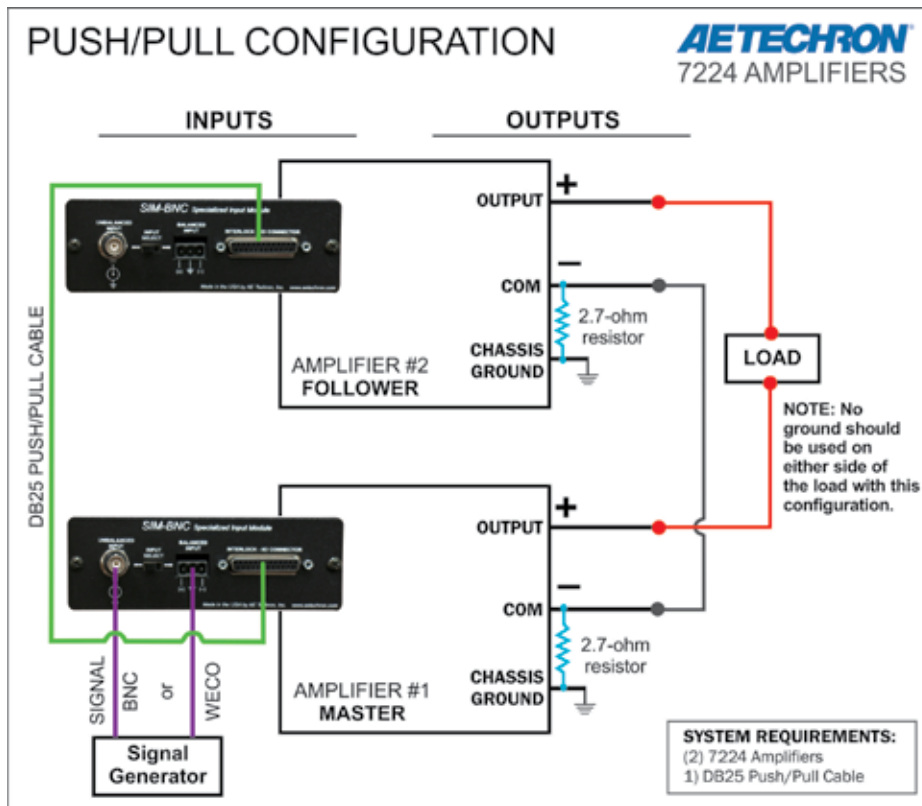

Figure B.2.15 – 7224 Push/Pull Configuration
5. Check the completed system diagram in **Figure B.2.15** to verify proper system setup.